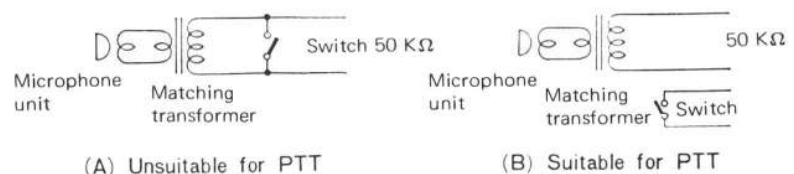

Fig. 14. Microphone with a Switch
There are two types of microphone switch available, as shown in Fig. 14, (A) and (B). The switch shown in Fig. 14, (A) is the type which short-circuits the microphone circuit and, therefore, cannot be used for PTT operation. While, the switch shown in Fig. 14, (B) has its own circuit independent to the microphone circuit and can be used with the microphone on the PTT basis.